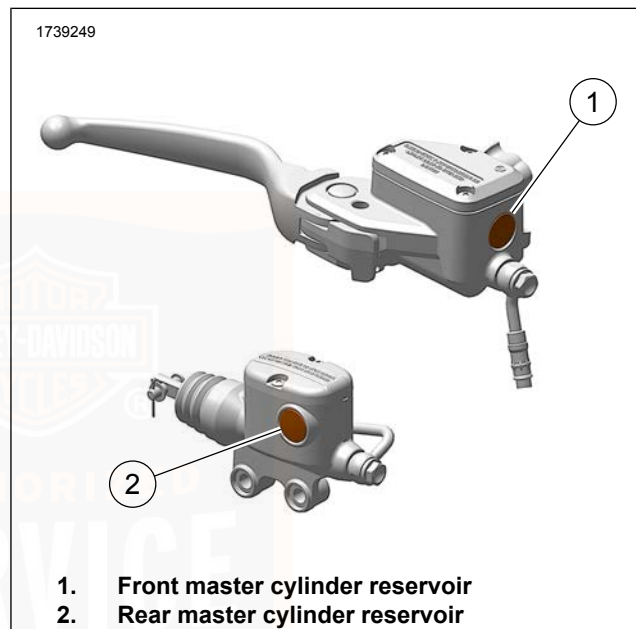

Figure 94. Sight Glass Minimum Marks
2. See Figure 94. View reservoir sight glass. Fluid level must be at or above the minimum mark on glass. If fluid level is below minimum mark, see a Harley-Davidson dealer.